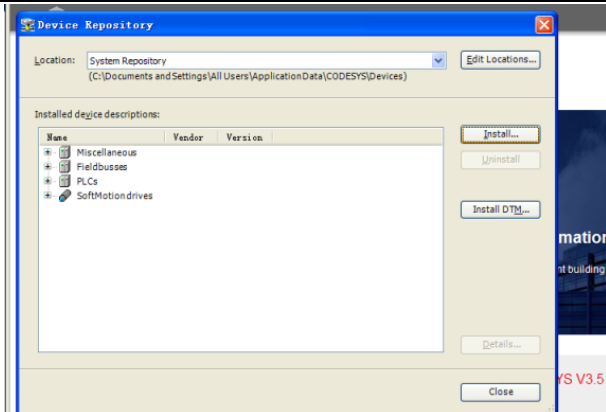

Figure 3-2
2. Click Install to install the device description file *Devdesc\_v100.xml*, as shown in Figure 3-2. Select **All supported description files (\*.xml;\*.eds;\*.dcf;\*.gs?)** in **File Type** when you choose the file to be installed.